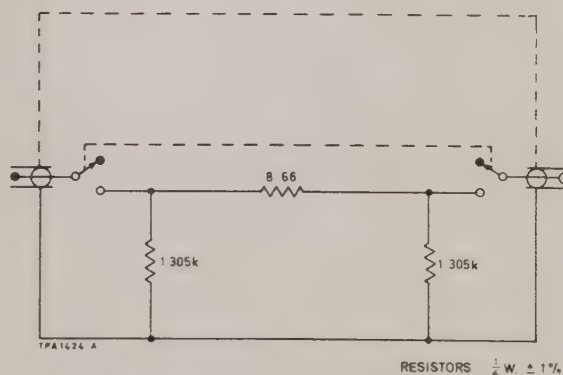

Fig. 5.21 Attenuator pad 0-1 dB
- Attenuator pad 0 to 1 dB, see Fig. 5.21.